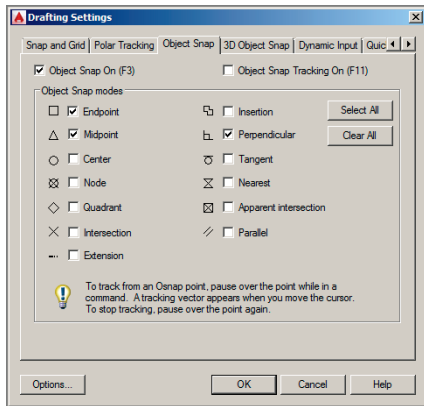

FIGURE 3.11 Turning on a few Running Object Snap modes
5. Toggle on **Object Snap** on the status bar. Right-click the same icon, and choose **Object Snap Settings** from the context menu. Click the **Clear All** button, and then select **Endpoint**, **Midpoint**, and **Perpendicular** (see Figure 3.11). Click **OK**.